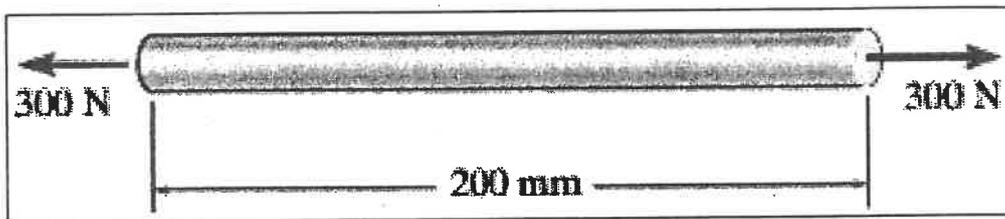

Figure 1
- (a) Figure 1 shows an acrylic rod 200 mm long and 15 mm in diameter. An axial load of 300 N is applied to it and E_p is given by 2.70 GPa and $\nu_p = 0.4$. By referring to Appendix B, determine the change in its length and diameter.